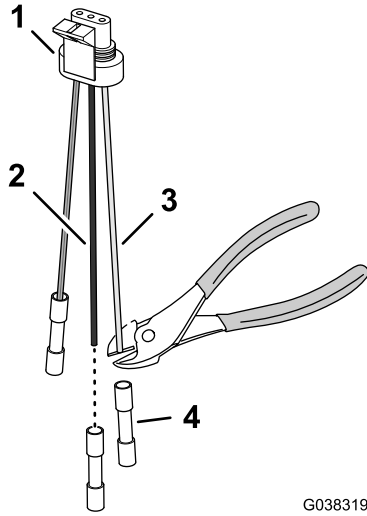

Figure 41
1. Cut off the butt-splice connectors for the pink wire and black wire of the 3-pin adapter (Figure 41).